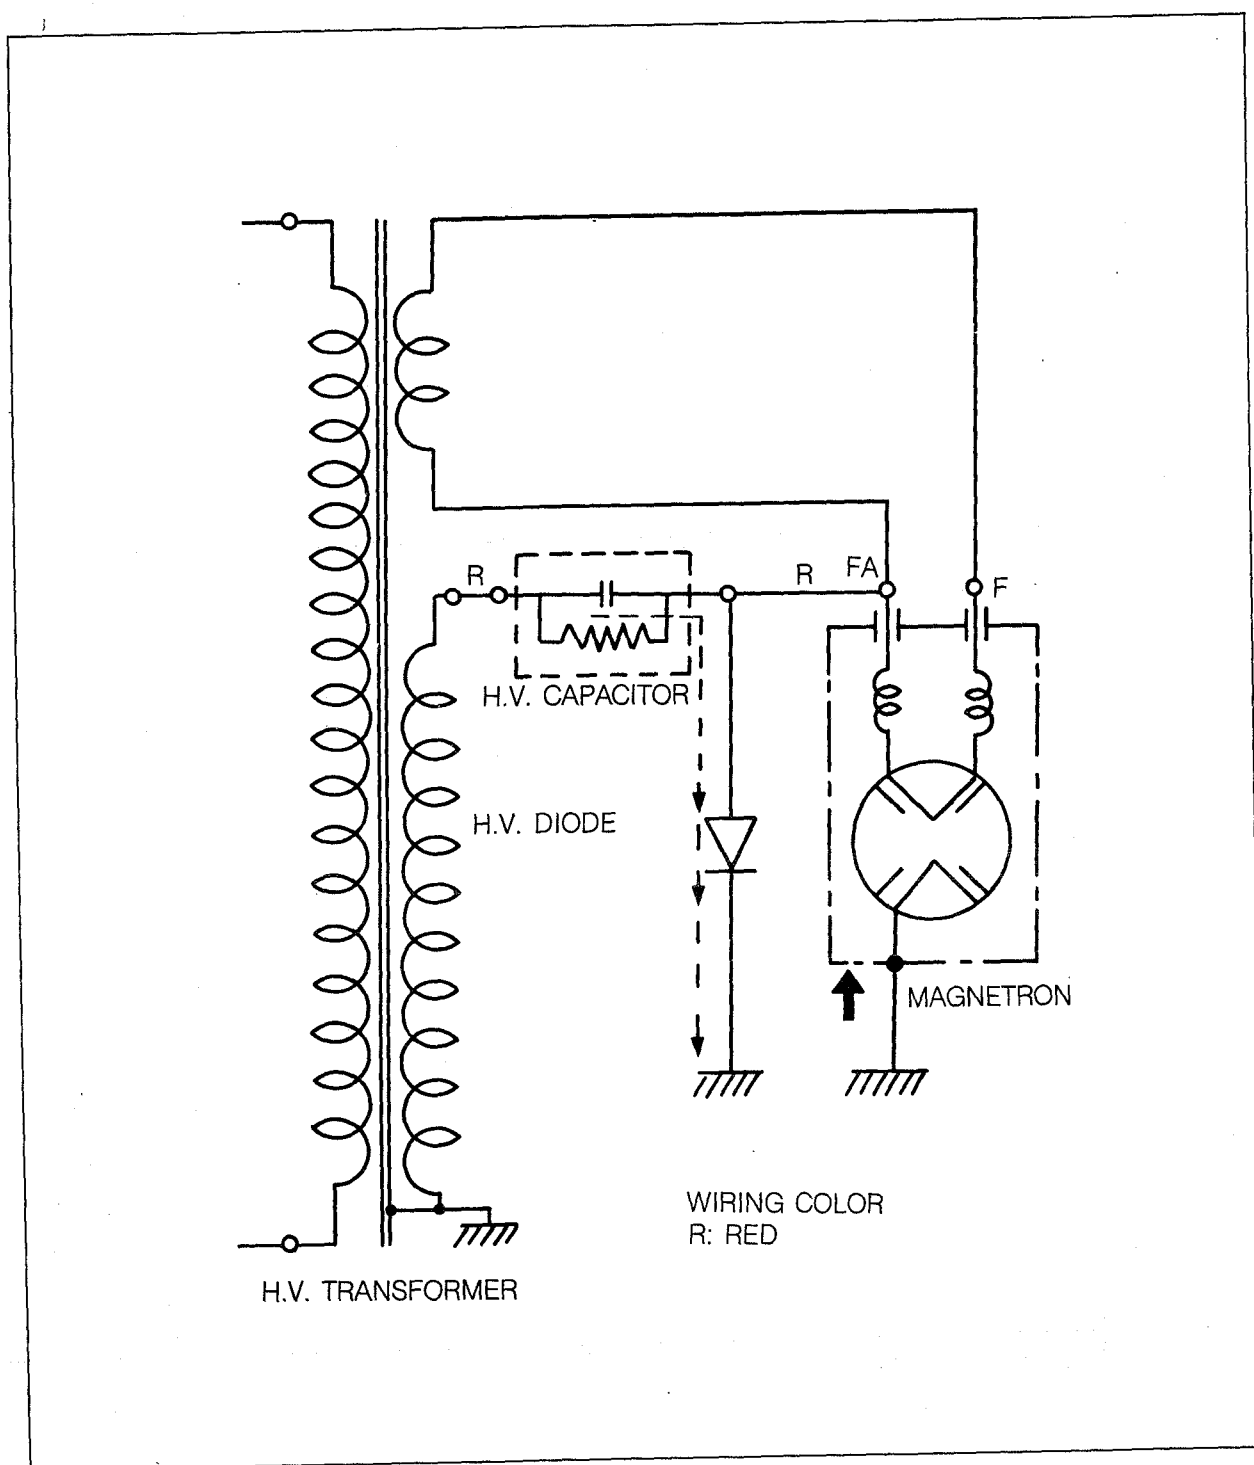

Fig. 2
- 6) A high voltage of 2000 Volts AC is generated in the secondary of high voltage transformer and this secondary voltage is increased by the action of the diode and the charging of the high voltage capacitor. This resultant DC voltage is then applied to the anode of the magnetron. As shown in Fig. 2 the first half cycle of the high voltage produced in the high voltage transformer secondary charges the high voltage capacitor. Current flow is in the direction of the dotted-line during the second half cycle, the voltage produced by the transformer secondary, and the charge of the high voltage capacitor are combined and applied to the magnetron as shown by the solid line so that oscillations begins.